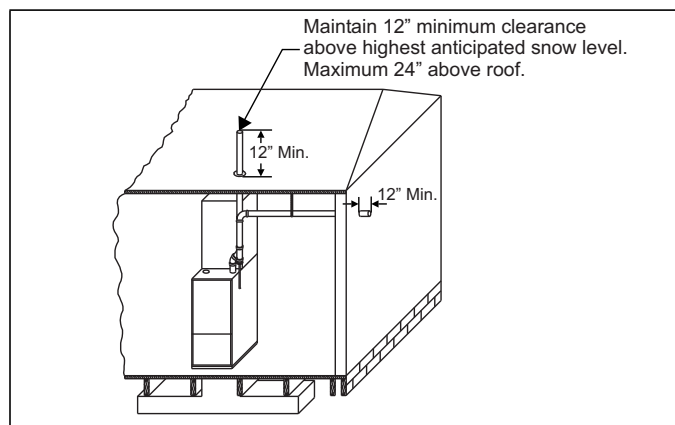
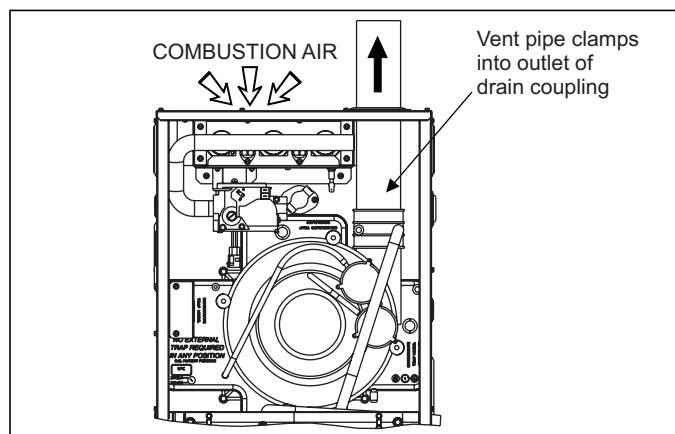

FIGURE 25: Termination Configuration - 1 Pipe
FIGURE 32: Combustion Airflow Path Through The Furnace Casing
The combustion air side of the single pipe configuration shown in Figure 32 is referred to in these instructions as ambient combustion air supply. Follow the instructions for ambient combustion air installations, paying particular attention to the section on air source from inside the building. The vent for a single pipe system must be installed as specified in the venting section of these instructions with both vents terminating as shown in Figure 25. Each furnace must have a separate vent pipe. Under NO circumstances can the two vent pipes be tied together.
2. **AMBIENT COMBUSTION AIR:** Combustion air is supplied from the area surrounding the furnace through openings in the furnace casing. The combustion air and the vent pipes are not terminated in the same atmospheric zone. Refer to Figure 25 for vent terminations. Refer to "Ambient Combustion Air Supply" for proper installation. Refer to Figures 32 and 33.